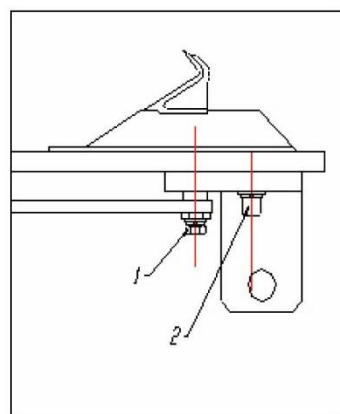

Fig. 5-2
- Adjust the belt tension with the special adjusting screw (1) on the engine mount (Figure 5-2).